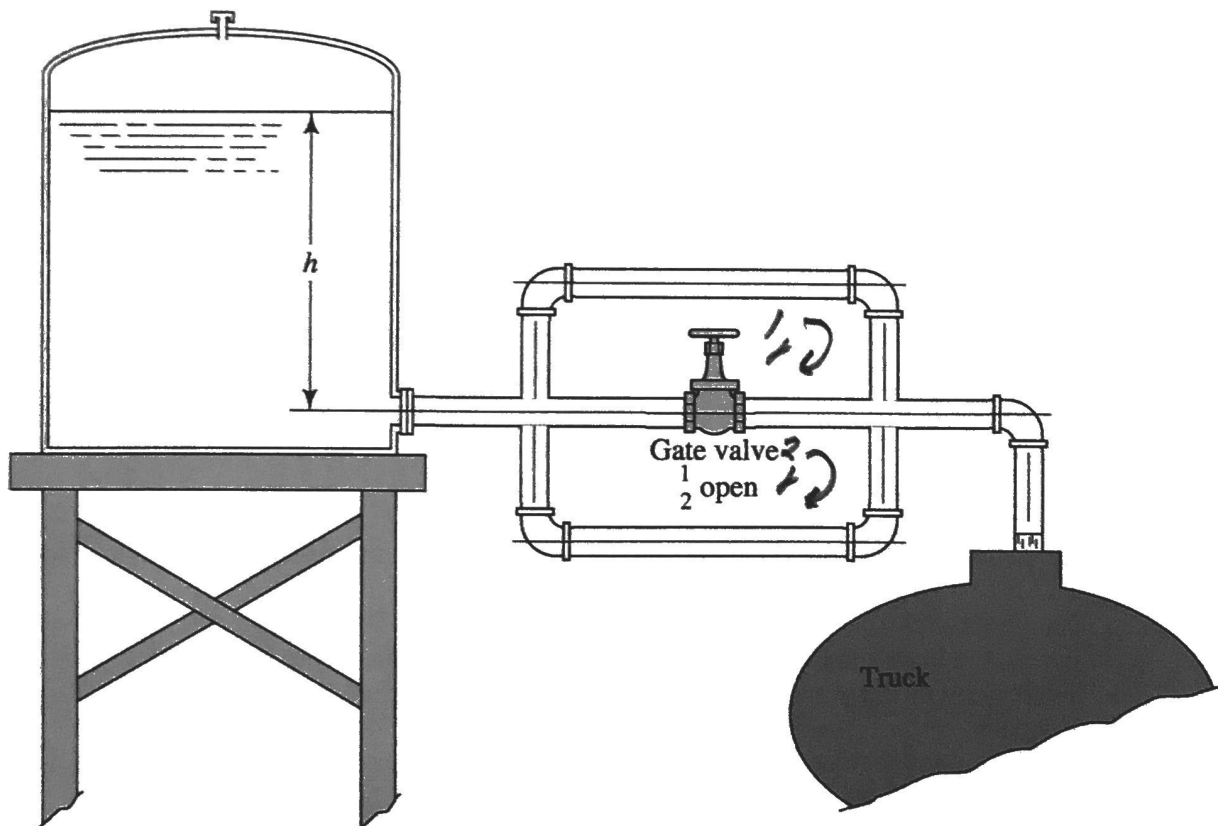

Figure 3. Schematic of the system for the 2nd part of this test.
2. Once again, your client wants you to revisit your design by modifying it to the way shown in figure 3. In this case, we all know that the flow rate passing through the new lower branch will be equal to the one passing through the upper branch (which you already calculated on the 1st part of this test) due to the symmetry. **Using ONLY the Hardy-Cross method**, prove that this is indeed the case (the flow rates through the upper and lower branch are the same). Please, make sure you use the appropriate new total flow rate.